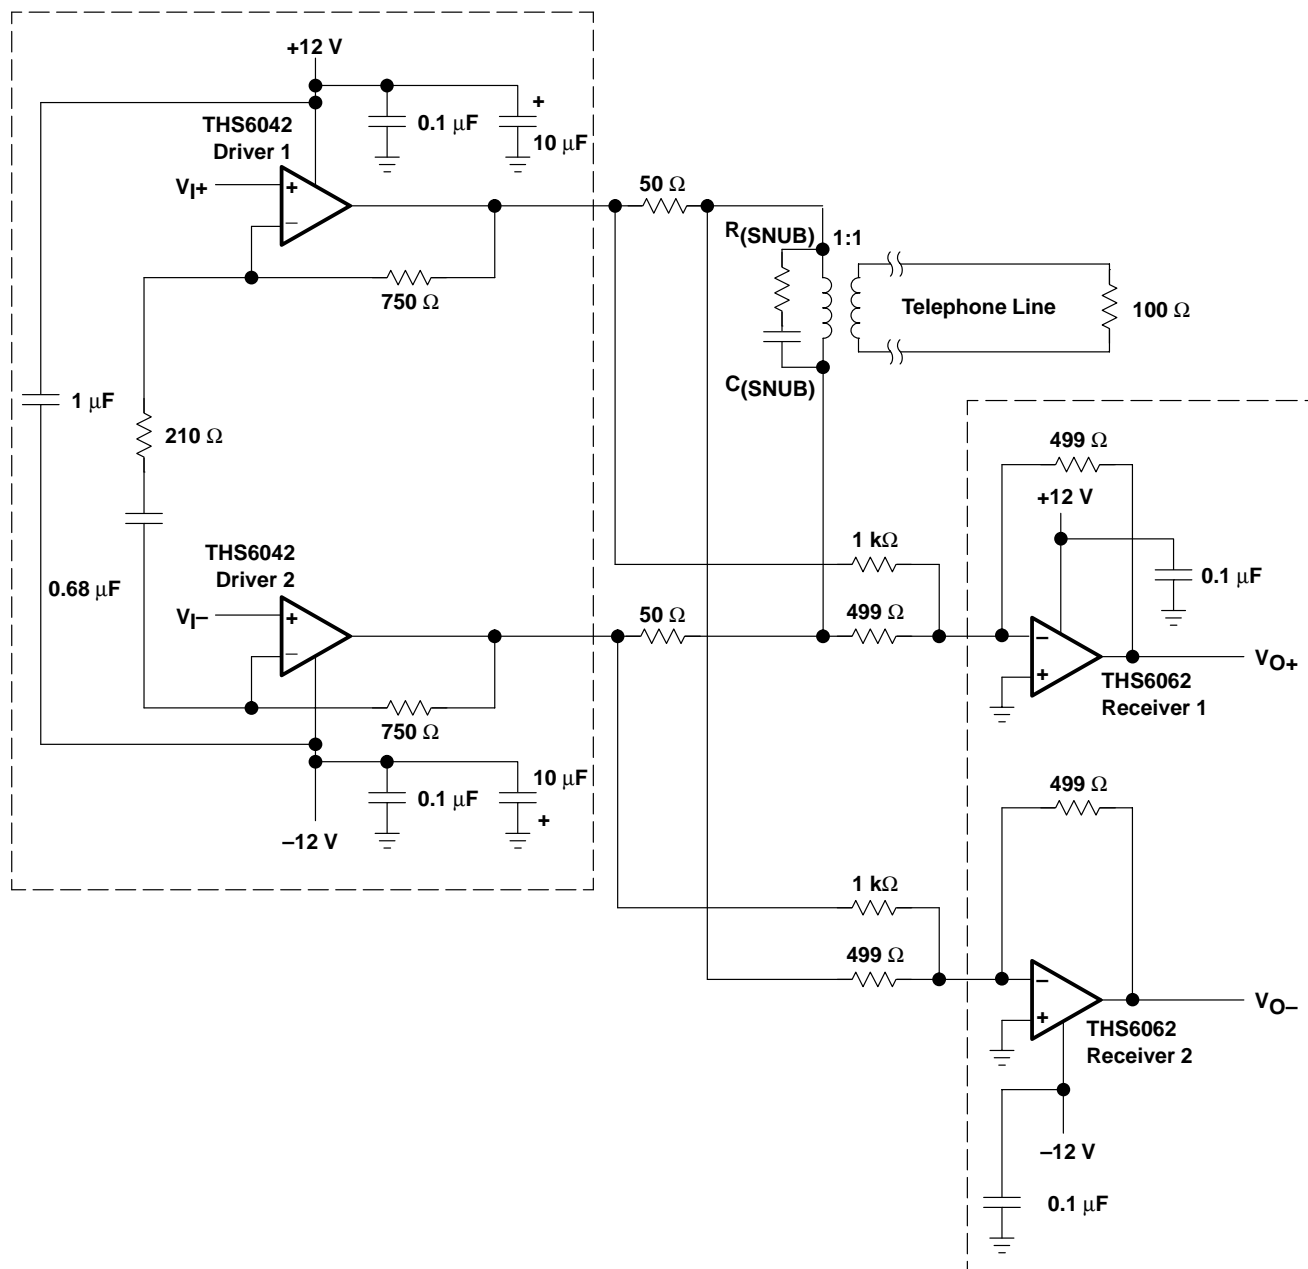

Figure 37. THS6042 ADSL Application With 1:1 Transformer Ratio
The THS6042/3 were primarily designed as line drivers for ADSL (asymmetrical digital subscriber line). The driver output stage has been sized to provide full ADSL power levels of 13 dBm onto the telephone lines. Although actual driver output peak voltages and currents vary with each particular ADSL application, the THS6042/3 are specified for a minimum full output current of 230 mA at ± 6 V and 300 mA at the full output voltage of ± 12 V. This performance meets the demanding needs of ADSL at the client side end of the telephone line. A typical ADSL schematic is shown in Figure 37.
- Differential power supply decoupling – The THS6042/3 were designed for driving low-impedance differential signals. The 50- Ω load which each amplifier drives causes large amounts of currents to flow from amplifier to amplifier. Power supply decoupling for differential current signals must be accounted for to ensure low distortion of the THS6042/3. By simply connecting a 0.1- μ F to 1- μ F ceramic capacitor from the +V_{CC} pin to the -V_{CC} pin, differential current loops will be minimized (see Figure 37). This will help keep the THS6042/3 operating at peak performance.